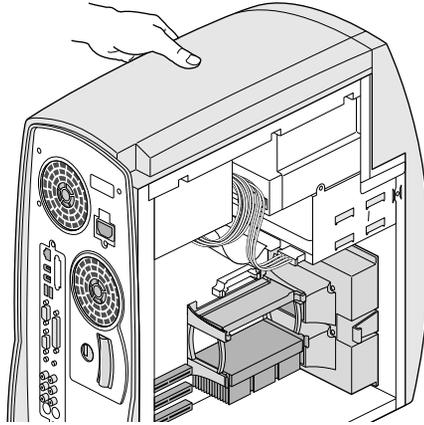

Figure 6-3 Stabilizing the System with Your Hand
7. Place one hand on top of the system unit to stabilize it while you install the processor, as shown in Figure 6-3.